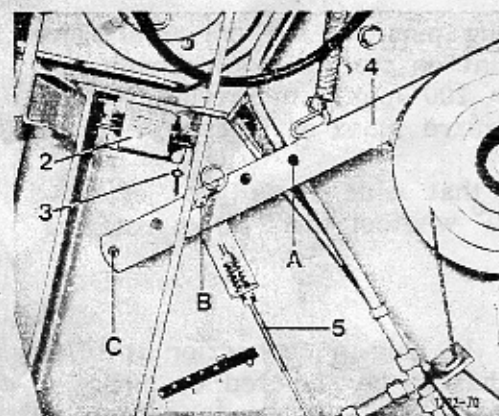

fig. 3
Setting the Bale Counter: To keep correct count on ejected bales, counter 2 must be set to zero with key 3 (fig. 3).
Pre-set Bale Density: The required bale density can be preselected or adjusted with lever 4 (fig. 3). Connecting tension rope 5 into hole C results in highest density, position b for medium and position A for low density.